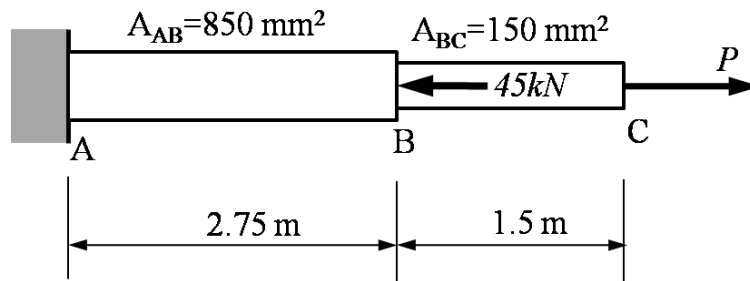

Figure 2(a)/ *Rajah 2(a)*
2. [a] For the stepped bar ABC shown in **Figure 2(a)**, determine the magnitude of load P at C so that displacement at C is zero. Cross-sectional areas of portion AB and BC are shown in the figure. Use $E = 200 \text{ GPa}$.
- [b] **Figure 2(b)** shows a rigid horizontal beam ABCE which is supported by a pair of rectangular bar CD at C. The cross-sectional size of each of the rectangular bar is $37.5 \text{ mm} \times 12.5 \text{ mm}$. Modulus of elasticity of the bar is $E = 125 \text{ GPa}$. Vertical loads of 17.5 kN and 35 kN act at points B and E, respectively.